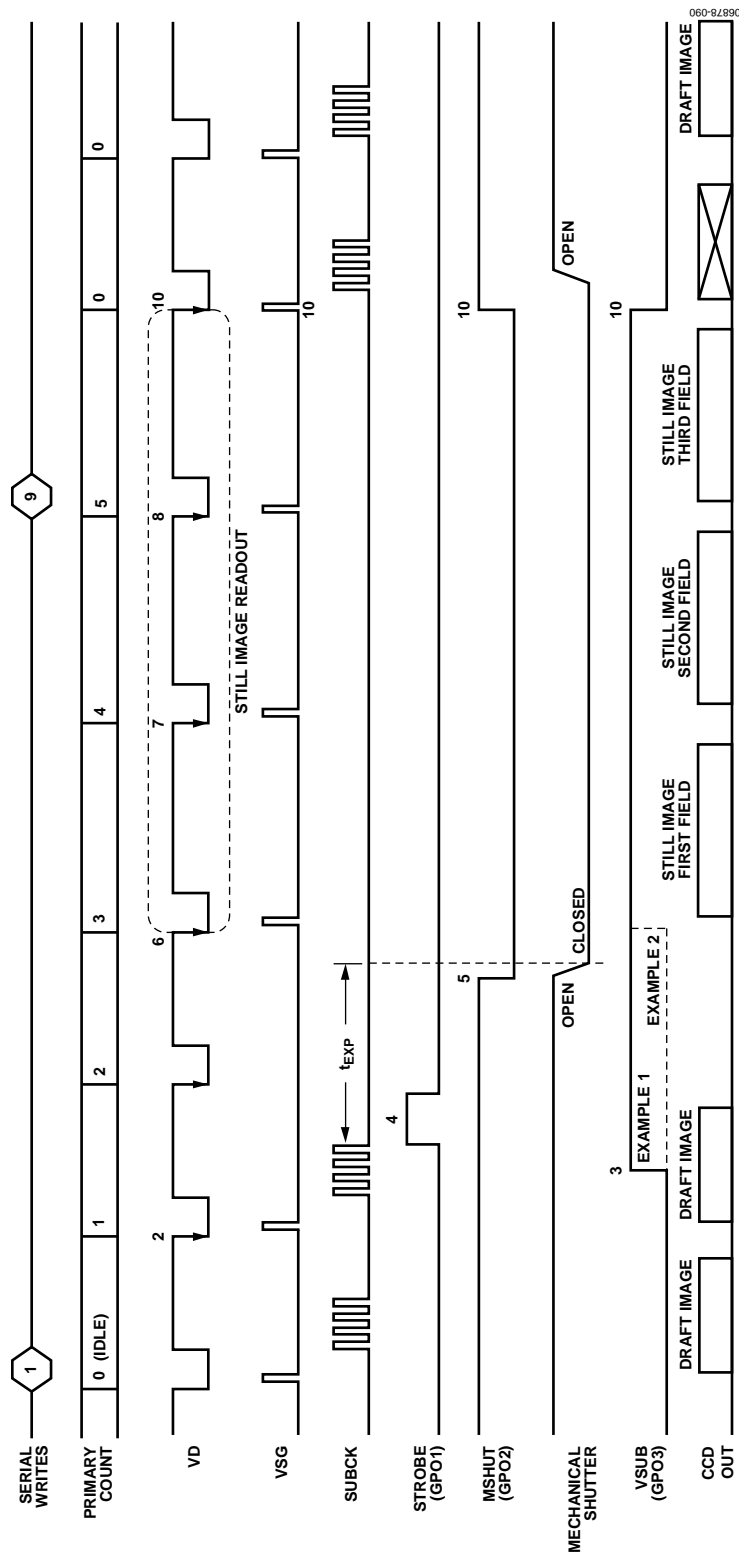

Figure 90. Complete Exposure/Readout Operation Using Primary Counter and GPO Signals
Figure 90 illustrates a typical expose/read cycle while exercising the GPO signals. Using a three-field CCD with an exposure time that is greater than one field but less than two fields in duration requires a total of five fields for the entire exposure/readout operation. Other exposure times and CCD field configurations require modification of these example settings.
3. GP3 (VSUB) output turns on at the field/line/pixel specified. In Figure 90, VSUB Example 1 and Example 2 use GP3TOG1_FD = 1.